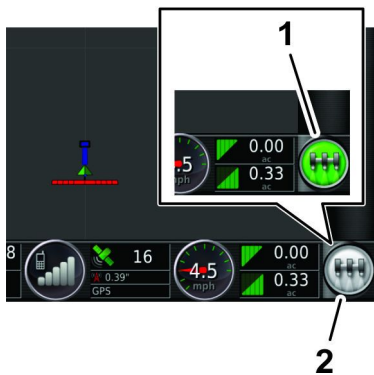

Figure 164
- On the GeoLink control console, press the MASTER SWITCH icon (Figure 164) to the ON (green).